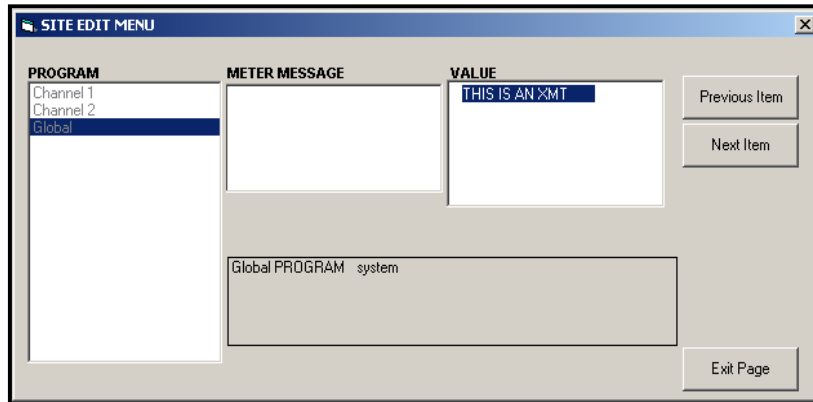

Figure 46: The System Option in the Global Menu
2. Highlight and double-click on the System option in the center pane. The window now appears similar to Figure 46.